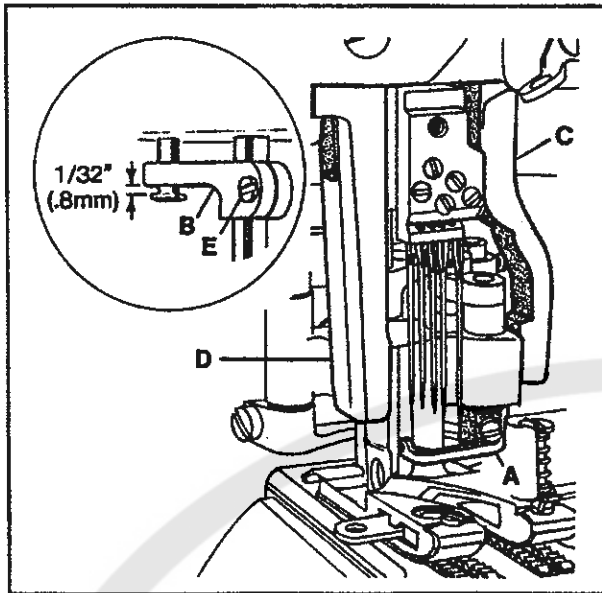

FIG. 19
Remove the presser bar regulating screw and the presser spring. Raise the needle bar to its highest position and remove the retainer. As the foot is slipped under the needles, swing the upper knife into the opening on the right side of the foot and slide the linkage onto the hook driving sleeve. Insert the presser bar through the linkage and into the presser foot shank. Tighten presser foot screw. With the presser bar inserted properly into the presser foot, position the foot left to right so the finger of cover thread carrier (A, Fig. 19) is between the first and second needles. Set presser bar guide (B, Fig. 19 Inset) so foot will not move. Set right presser foot guide (C) and left presser foot guide (D) to maintain
setting. Loosen presser bar guide screw (E Fig. 19 Inset) and check to see that foot has vertical freedom with no right to left play and no bind. Tighten presser bar guide screw (E).